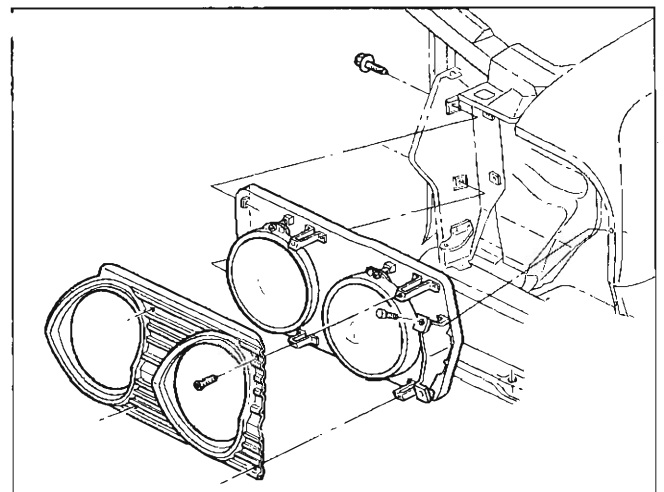

Fig. 6—Headlamp Attachment—Chevelle
2. Remove headlamp bezels (Fig. 6).